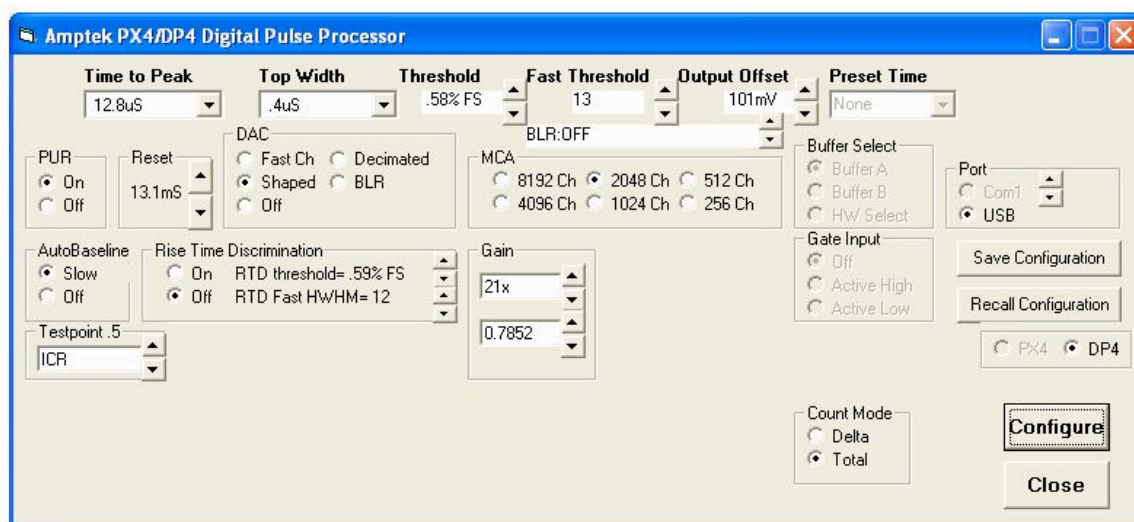

Figure 9. View of configuration setting "load DP4 configuration panel"
- “load DP4 config panel” (Figure 9): Opening this panel allows the setting for the DP4 digital pulse processor to be changed. Refer to the AmpTek manual (Appendix A) on the DP4 for more information about these parameters.